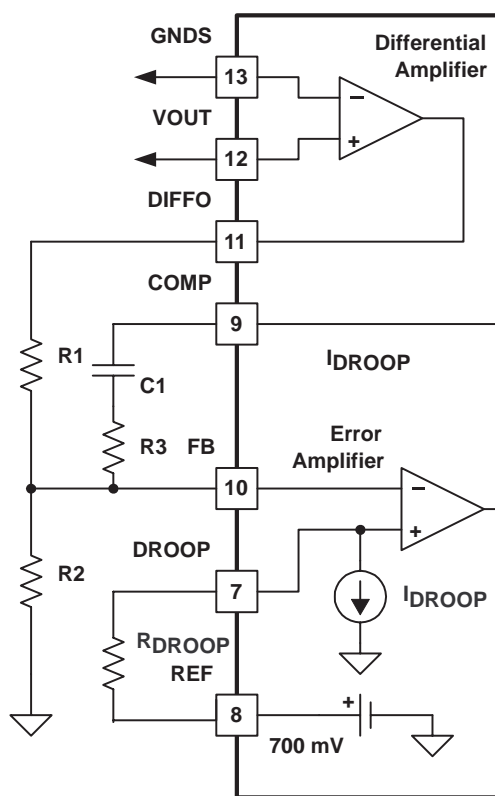

Figure 5
The converter output voltage is programmed by the R1/R2 divider from the output of the differential amplifier. The center point of the divider is connected to the inverting output of the error amplifier (FB), as shown in Figure 5.